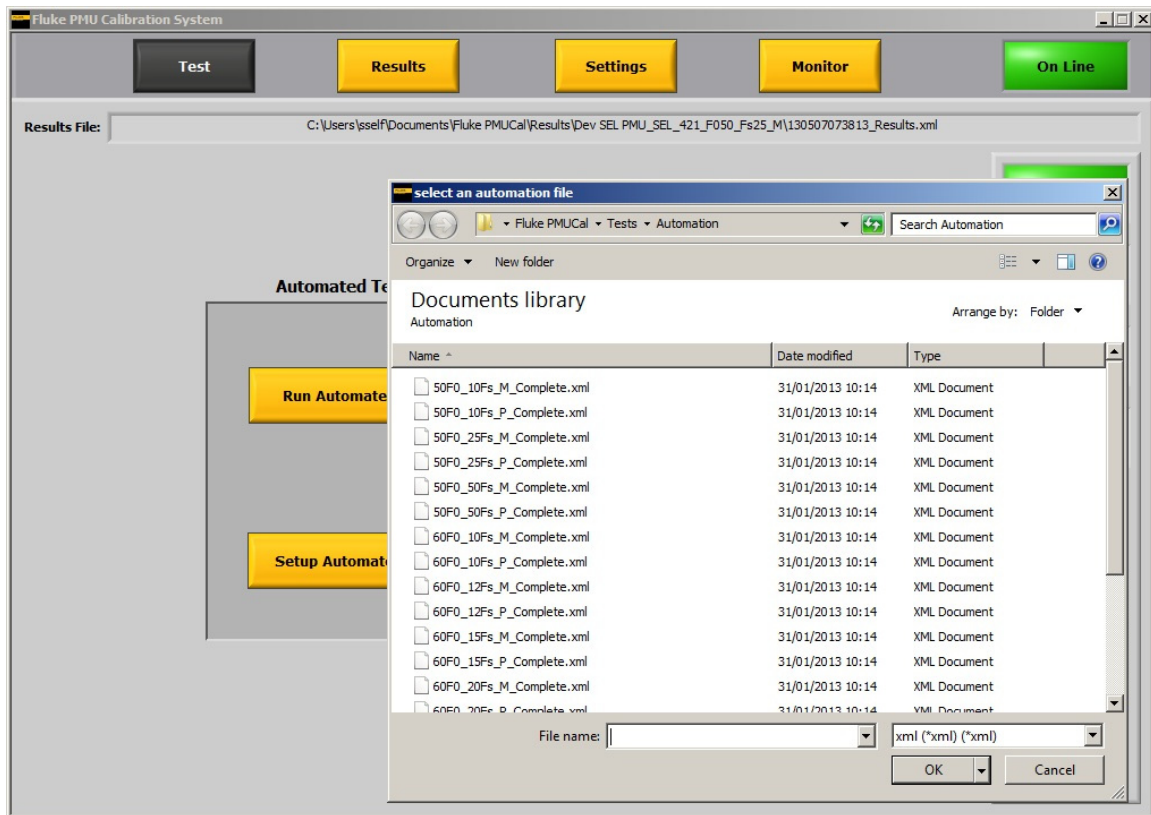

Figure 5-1. Load Automated Test
3. In **General Interactive Testing**, click **Run Automated Test**. A Windows Load dialog box opens (see Figure 5-1).